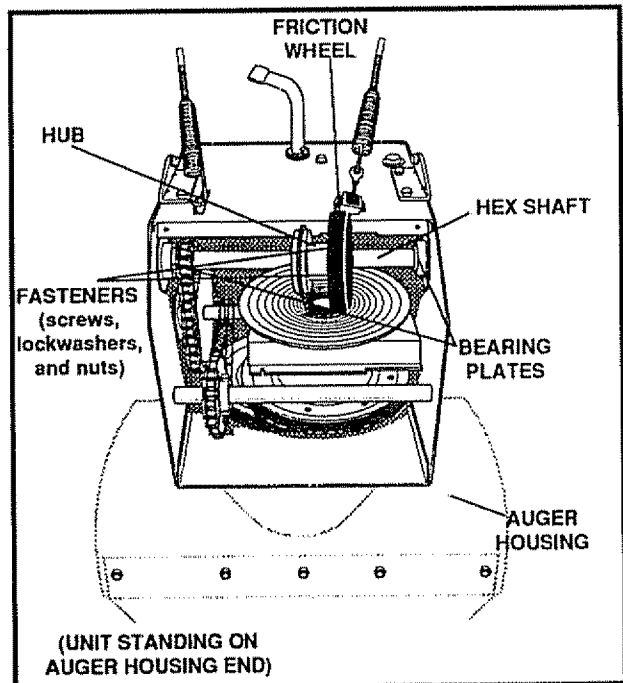

FIG. 33
- Stand the snow thrower up on the auger housing end (See Fig. 33).
- Remove right side bearing plate. Leave Hex shaft in original position (See Fig. 33).
- Remove friction wheel from hub. Slip friction wheel off hex shaft towards right side (See Fig. 33).